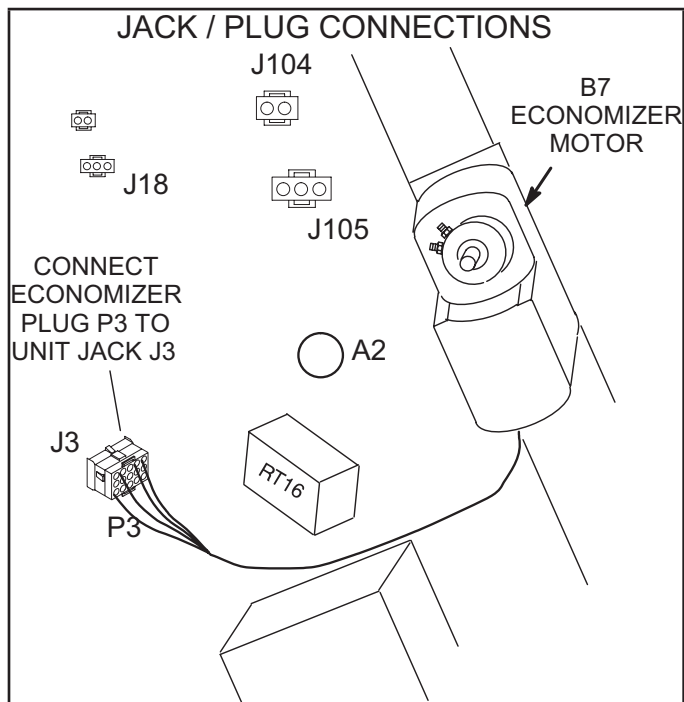

FIGURE 5
- 9 - Connect economizer plug P3 to unit jack J3 as shown in FIGURE 5.